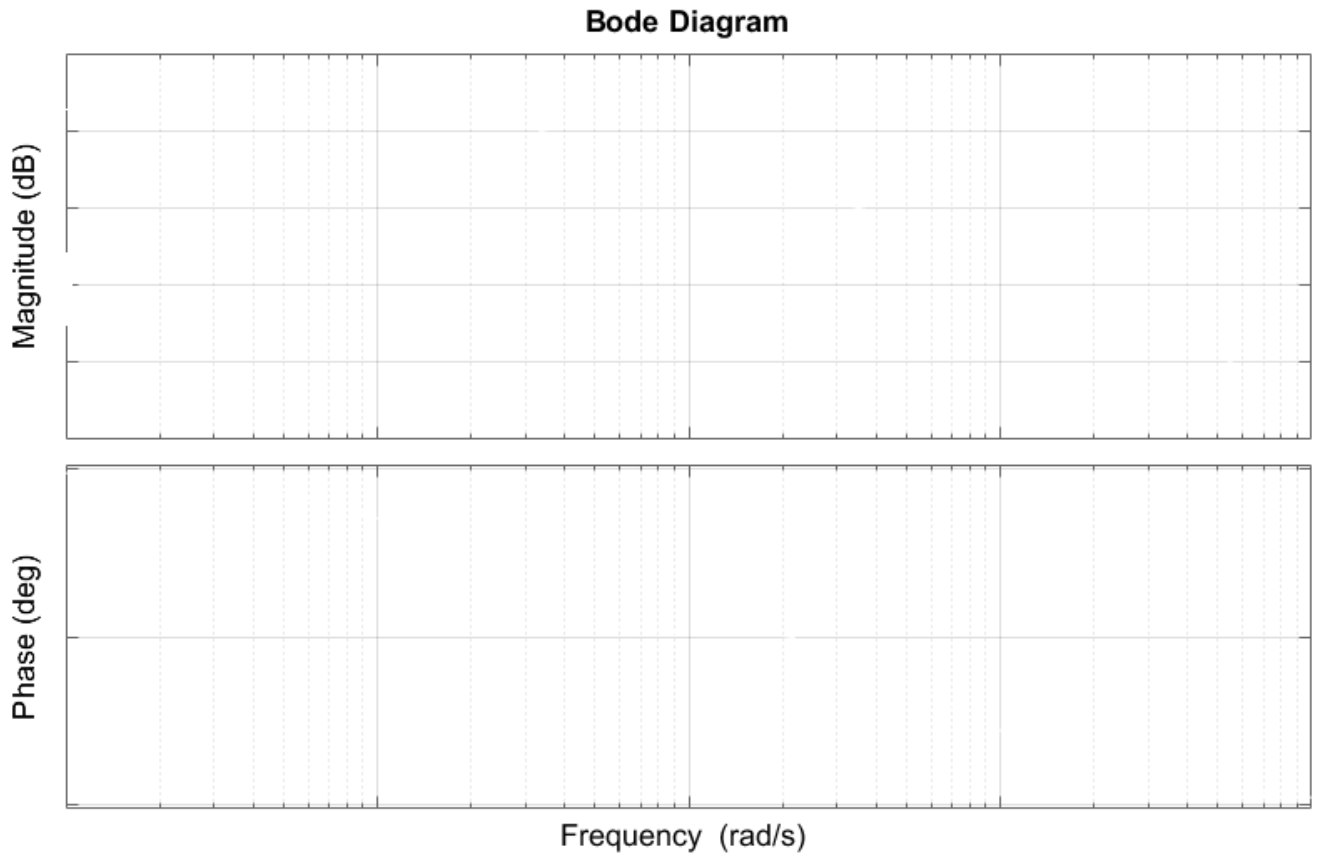

Figure 4: Bode plot of RC, RL and RLC circuit.
d) Plot the bode plots, of the three circuits, in Fig. 4.